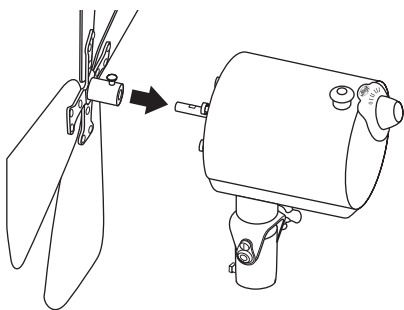

FIGURE 9
21. Slide the Blade Assembly Sleeve over the Motor Shaft, ensuring the Blade Assembly Screw is positioned over the Flat Portion of the Motor Shaft. See Figure 9. Tighten the Blade Assembly Set-screw so that it seats against the Flat Portion of the Motor Shaft. gently pull the Blade Assembly to ensure it is secure on the Motor Shaft.
NOTE: For clarity, the Back Grille and Interlock Bracket have been removed from Figure 9 to show the Blade Assembly Sleeve/Motor Shaft installation.